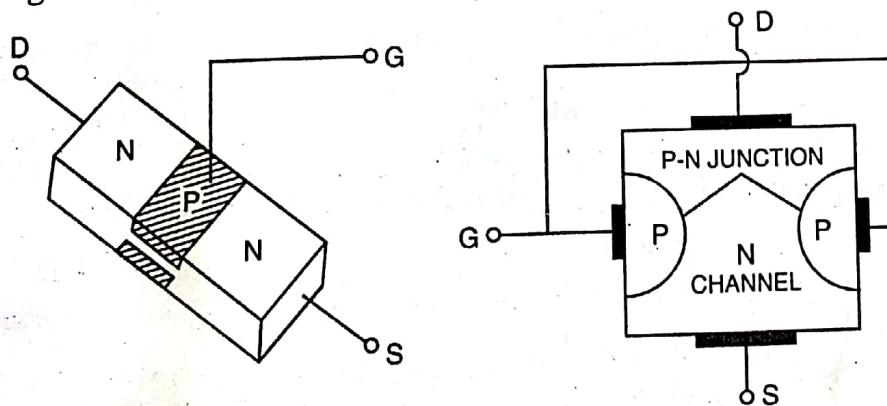

Fig. 9.1. N channel JFET
(1) **N channel JFET** : It consists of a thin bar of N type semiconductor with two junctions with the P type semiconductor near the centre, at opposite sides of the bar. Thus we get two P-N junctions on either side of the bar (Fig. 9.1). Both the P type